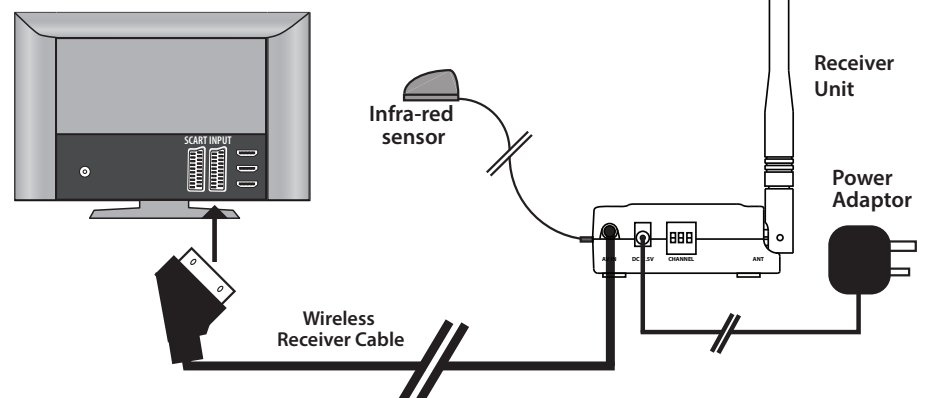

Fig. 3 - Transmitter Connections Main Room
- 7) Plug the Infra-Red Extender cable into the Infra Red Socket on the Transmitter as shown in Fig. 3.
- 9) Connect the remaining power adaptor to the DC input on the Transmitter as shown in Fig. 3. Plug the power adaptor into a mains socket and switch the socket ON, the Power LED shall now be lit. If the LED does not light up, ensure that the ON/OFF switch on the Transmitter is set to ON.